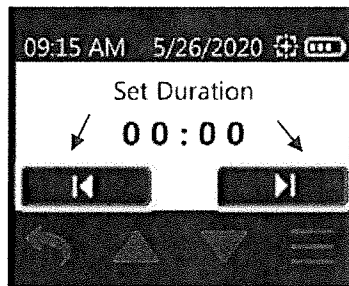

Figure 19. Left/Right and Up/Down Buttons
- Hour digit 1 will flash. Touch up/down arrow buttons to increment/decrement hour. Touch right arrow to advance to hour digit 2 (will flash) and up/down arrow buttons to adjust hour digit 2. Repeat through minutes (Figure 19).